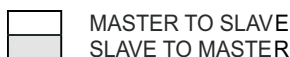

Figure 28. SMBus Write-Word and Read-Word Protocols
The bq24765 receives control inputs from the SMBus interface. The bq24765 uses a simplified subset of the commands documented in System Management Bus Specification V1.1, which can be downloaded from [www.smbus.org](http://www.smbus.org). The bq24765 uses the SMBus Read-Word and Write-Word protocols (see Figure 28) to communicate with the smart battery. The bq24765 performs only as an SMBus slave device with address 0b0001001\_ (0x12) and does not initiate communication on the bus. In addition, the bq24765 has two identification (ID) registers (0xFE): a 16-bit device ID register and a 16-bit manufacturer ID register (0xFF).
To set the output charge voltage regulation limit, use the SMBus to write a 16bit ChargeVoltage() command using the data format listed in Table 3. The ChargeVoltage() command uses the Write-Word protocol (see Figure 28). The command code for ChargeVoltage() is 0x15 (0b00010101). The bq24765 provides a 1.024V to 19.200V charge voltage range, with 16mV resolution. Setting ChargeVoltage() below 1.024V or above 19.2V clears DAC, and terminates charge.
To set the charge current, use the SMBus to write a 16bit ChargeCurrent() command using the data format listed in . The ChargeCurrent() command uses the Write-Word protocol (see Figure 28). The command code for ChargeCurrent() is 0x14 (0b00010100). When using a 10mΩ sense resistor, the bq24765 provides a charge current range of 128mA to 8.064A, with 128mA resolution. Set ChargeCurrent() to 0 to terminate charging. Setting ChargeCurrent() below 128mA, or above 8.064A clears DAC and terminates charge
To set the input current limit, use the SMBus to write a 16-bit InputCurrent() command using the data format listed in Table 5. The InputCurrent() command uses the Write-Word protocol (see Figure 28). The command code for InputCurrent() is 0x3F (0b00111111). When using a 10mΩ sense resistor, the bq24765 provides an input-current limit range of 256mA to 11.004A, with 256mA resolution. InputCurrent() settings from 1mA to 256mA clears DAC and terminates charge. Upon reset the input current limit is 256mA.